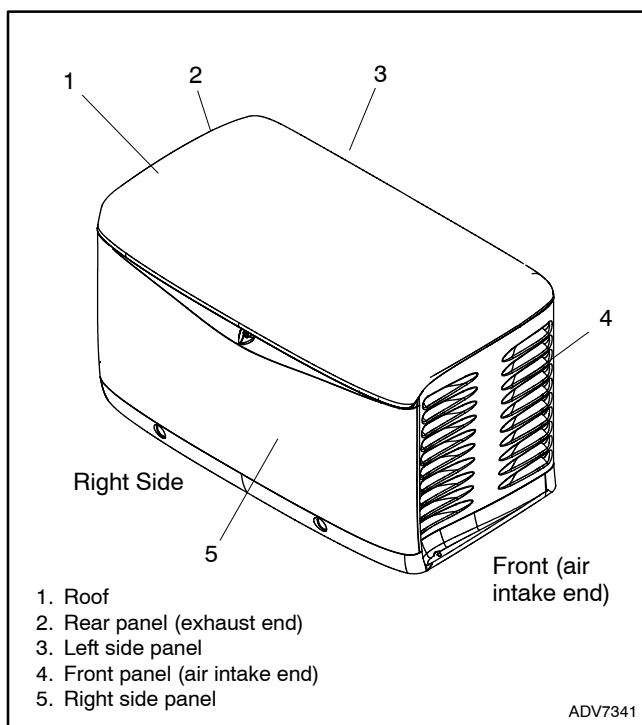

Figure 6-29 Generator Set Enclosure
17. Reinstall the enclosure panels in reverse order of removal. See Figure 6-29 and refer to the disassembly instructions, if necessary.